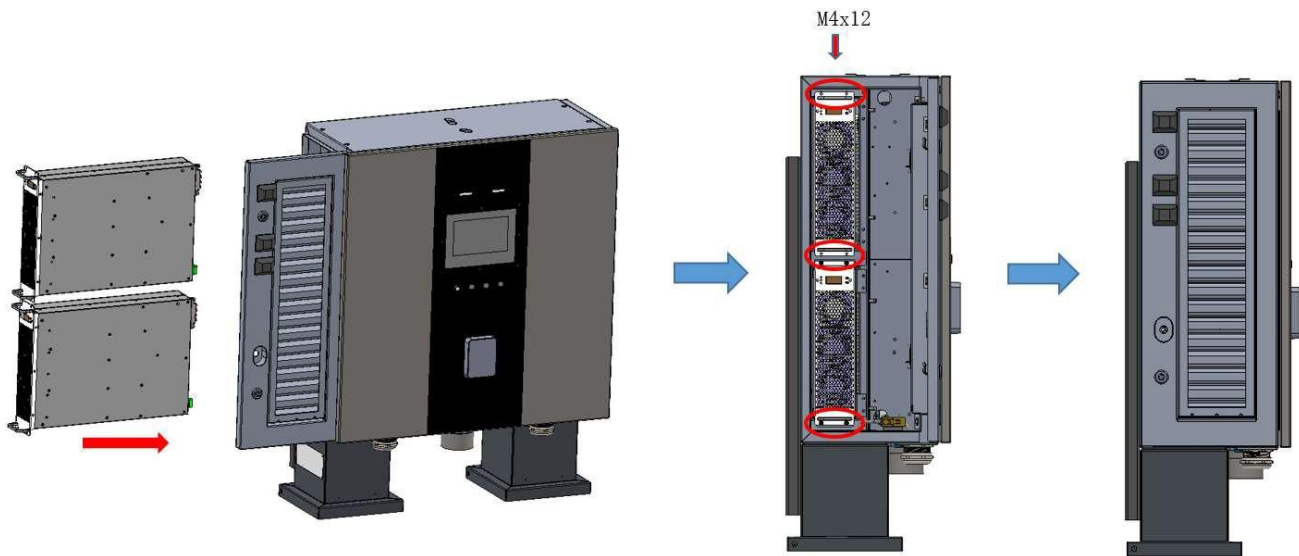

Figure 12 Charging module installation
(5) Open the left door, put the charging modules into the charger main body, and tighten the four screws (M4 × 12). Then close the left door, as shown in Figure 12.
(4) For installation of charging module, please refer to wall-mounted type in Figure 12.